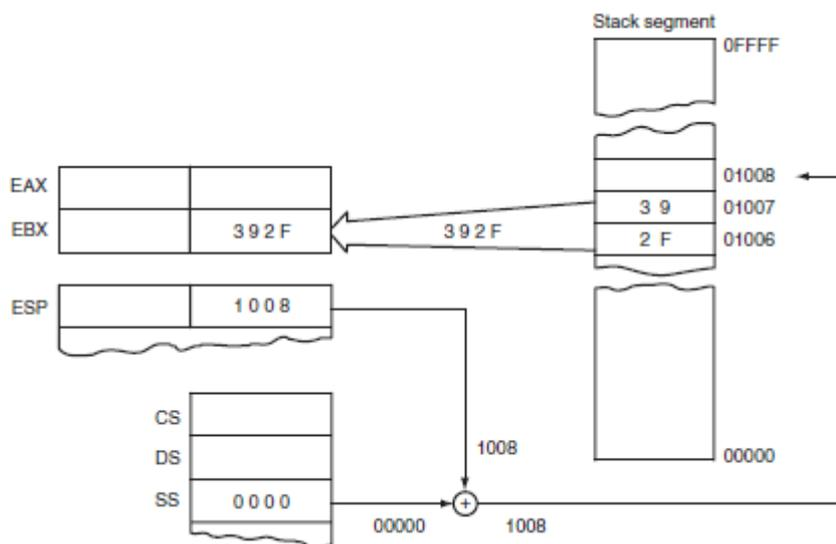

Figure 4-15: The POP BX instruction showing how data are removed from the stack. This instruction is shown after execution
- POP removes data from the stack & places it into 16-bit register, segment-register or 16-bit memory-location (Fig4-15 & Table4-9).